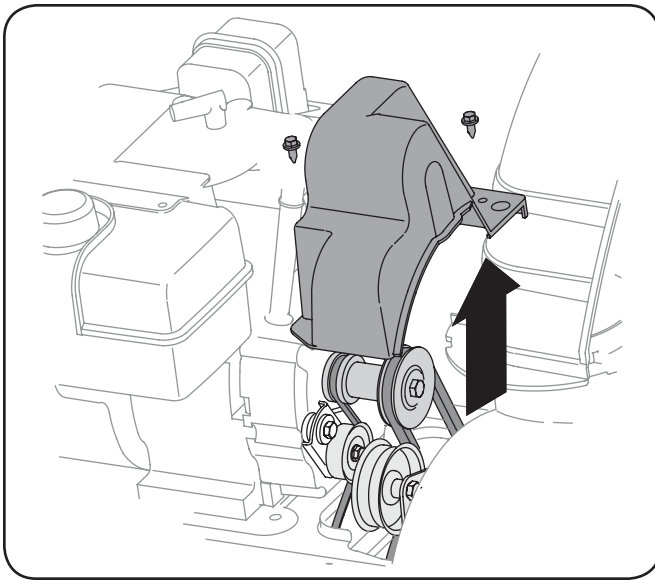

Figure 7-1
2. Remove the plastic belt cover on the front of the engine by removing the two self-tapping screws. See Fig. 7-1.
2. Remove the plastic belt cover on the front of the engine by removing the two self-tapping screws. Refer to Fig. 7-1.